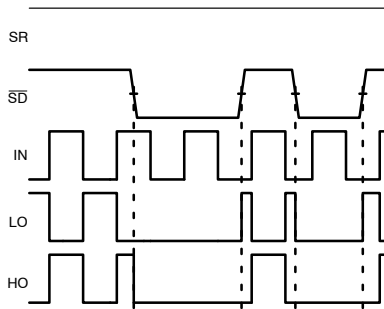

Figure 37. Shutdown with SR Pin Pulled Up
11. Turn-off propagation applies to $\overline{SD}$ pin. See Figure 37 for timing definitions.
When the SR pin is kept pulled up as shown in Figure 37, the $\overline{SD}$ pin operates like an Enable pin. With the SR pin in a pulled up state: